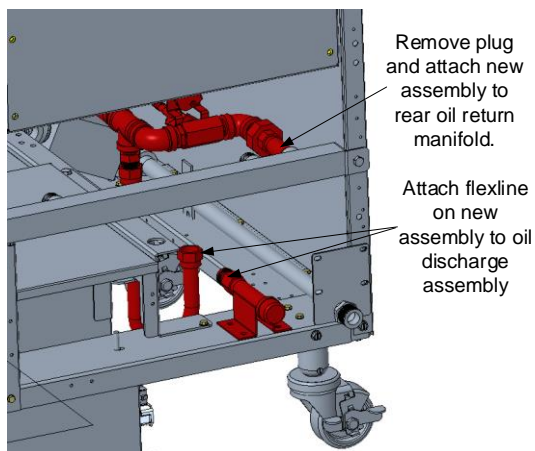

Figure 6: Rear connections.
12. Attach the rear fitting of the disposal assembly into the open port of the rear oil manifold from step 3. See Figures 6 and 7.
13. Attach the 11 1/2" flexline from bottom of the disposal assembly to the rear oil discharge nipple assembly (1082737) mounted in step 4. See Figures 6 and 7.